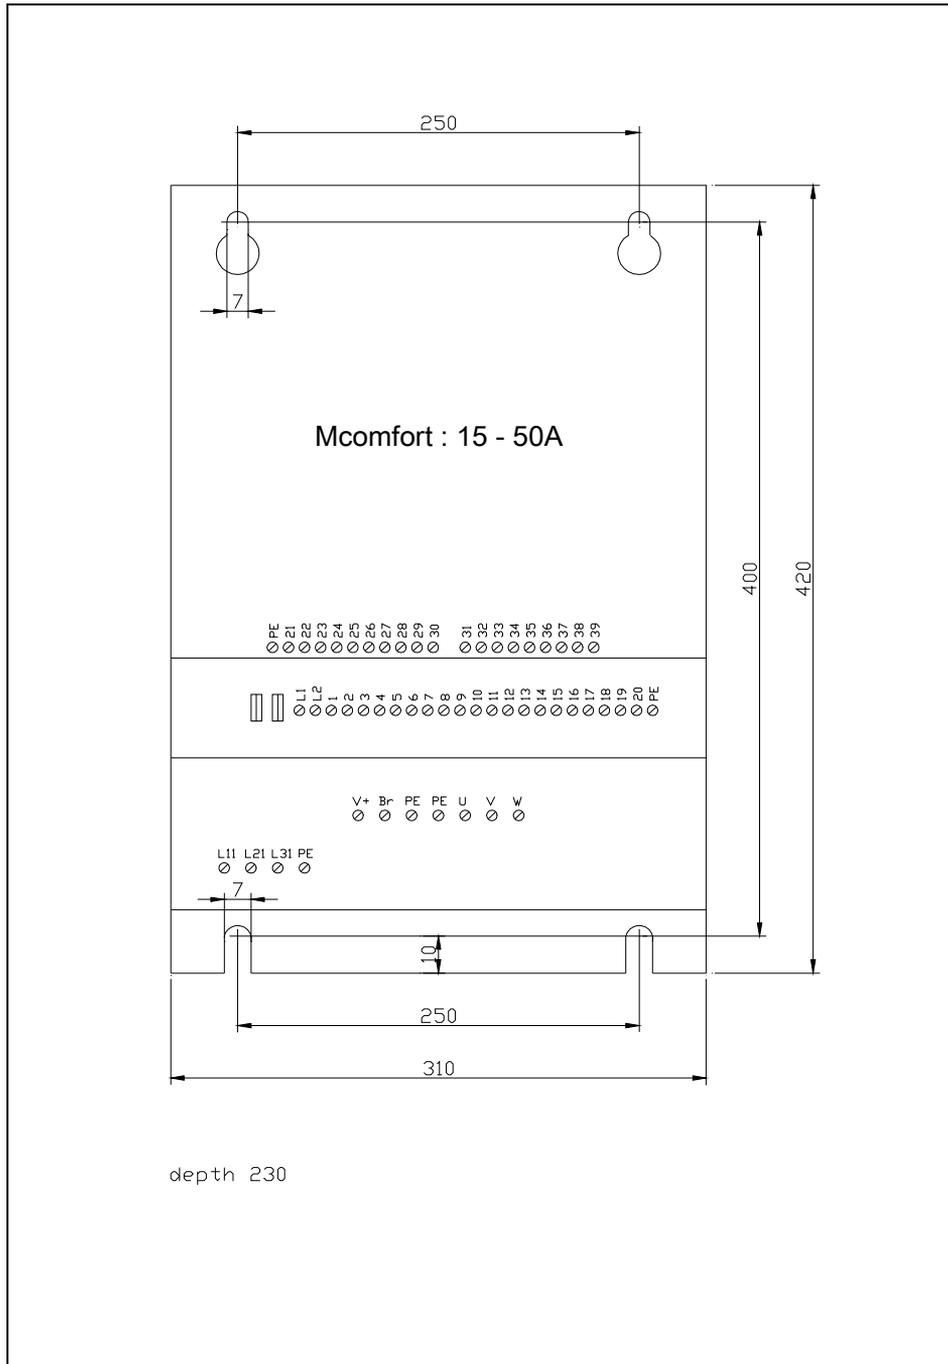

Figure 3: Dimension drawing for units with 15A to 50A rated current
- The controllers are available in the sizes given below (see Figure 3). Higher power classes on request.
- ! Controllers of the Mcomfort series are designed for vertical installation in cabinets or machine frames. They must be fitted with their terminal strips and connecting bars to the bottom. See Figure 3 and 4 for dimensions.